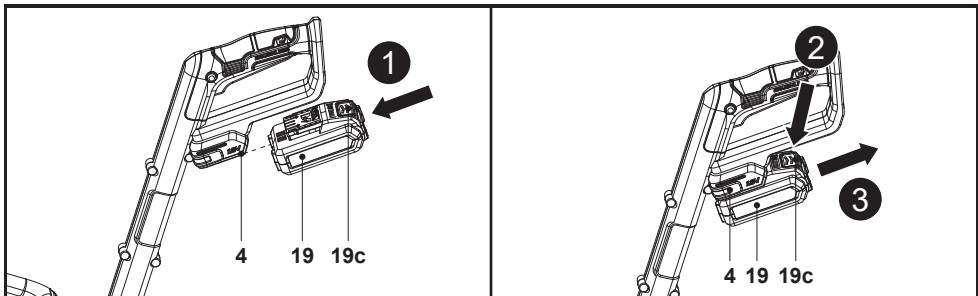

Fig. 2
Attaching: Align the battery pack (19) with the battery pack docking port (4) and slide it in. Make sure it clicks in place (Fig. 2).
Removing: Press the release button (19c) and remove the battery pack (19) from the battery pack docking port (4) (Fig. 2).
1. Connect the mains plug (20a) of the charger (20) to a suitable power supply.
2. Align the battery pack (19) to the battery pack docking port (20d) and slide it in until it locks in place (Fig. 2).